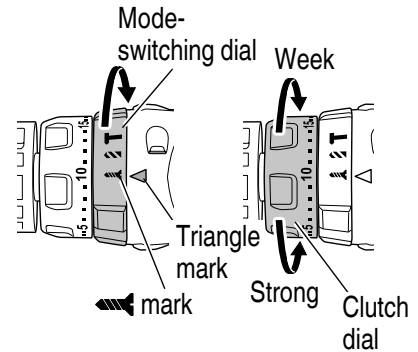

Fig. 14
7. Confirm the mode-switching dial and clutch dial position <DV18DA> (see Figs. 14, 15 and 16)
- (1) When using this unit as a screwdriver, align the mode-switching dial screw-tightening mark “▲” with the triangle mark on the outer body, and line up the one of the numbers “1, 5, 10 ... 20” on the clutch dial, or the dots, with the triangle mark on the outer body. (See Fig. 14)